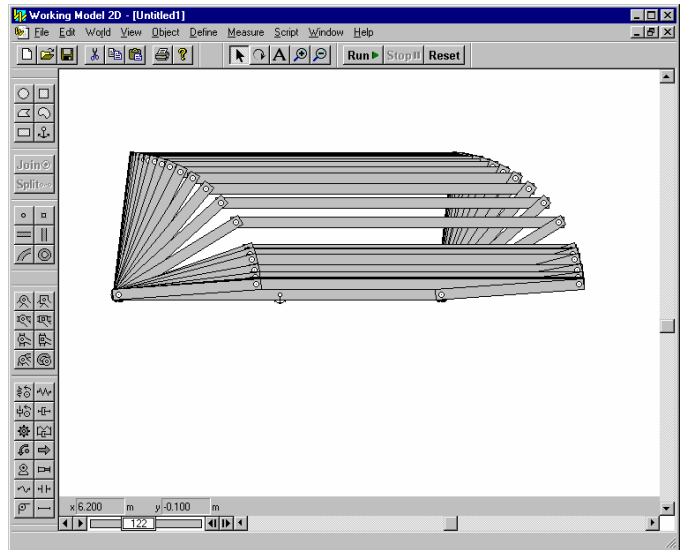

Figure 10. Building a fourbar linkage, Step 10.
10. Now simulate the linkage by clicking the run button. It is assumed gravity acts downwards, so the linkage falls downward and collides with the bottom link, Figure 10.